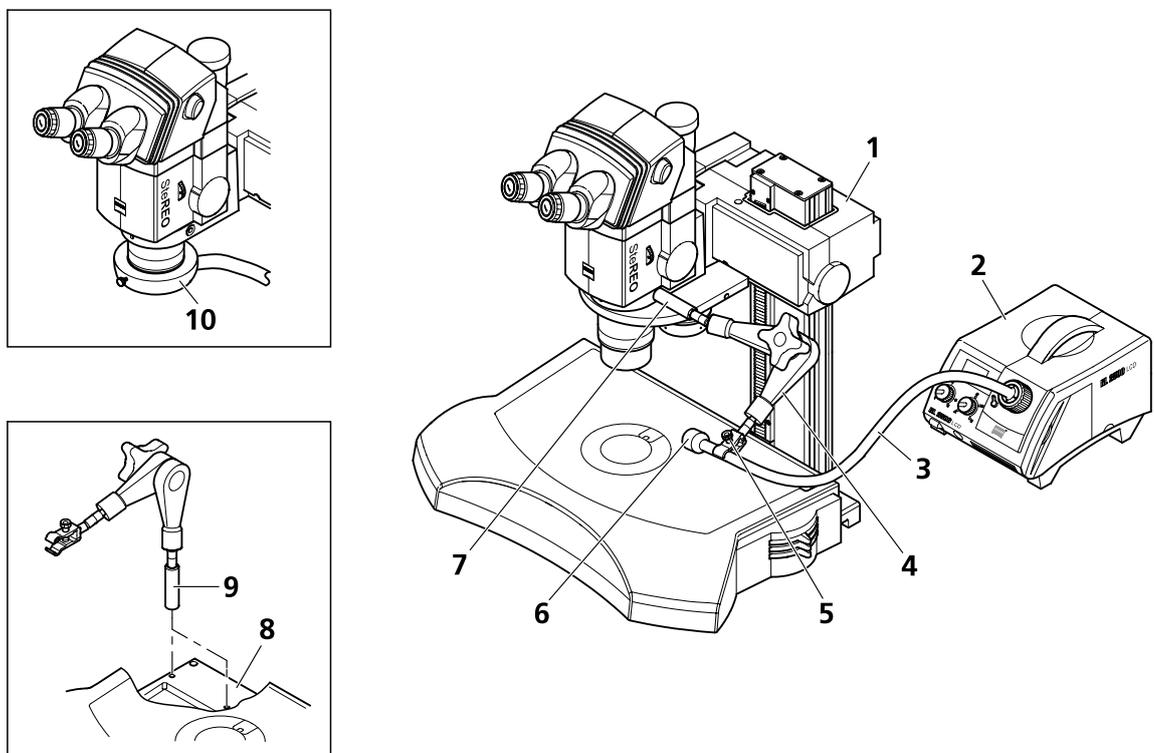

Fig. 18 Installing the incident-light illuminator
- **Flexible light guide with focusing attachment** (Fig. 18/3 and 6):
To be fastened to objective nosepiece, microscope carrier or stand base (Fig. 18/8) by means of the articulated arm and the clamp.
- **Fiber-optical ring illuminators and LED ring illuminators** (Fig. 18/10):
- Screw in the spacing rod (Fig. 18/7), if necessary.
- Hold the articulated arm (Fig. 18/4) in such a way that the label is correctly readable. Then, screw the clamp for the light guide (Fig. 18/5), the line light or the appropriate focusing attachment (Fig. 18/6) onto the upper end of the articulated arm.
- Screw the bottom end of the articulated arm (Fig. 18/4) into the spacing rod or one of the tapped holes on the stand. Tighten the tensioning screw on the articulated arm so that the latter can be used as lever.
- Connect the light guide (Fig. 18/3) to the cold-light source (Fig. 18/2).
The articulated arm may also be fixed to the stand base (Fig. 18/8). To this end, screw in the spacer (Fig. 18/9).
- Push the slit-ring illuminator (Fig. 18/10) onto the objective and clamp it by means of the knurled screw.
- Connect the light guide to the cold-light source (Fig. 18/2).